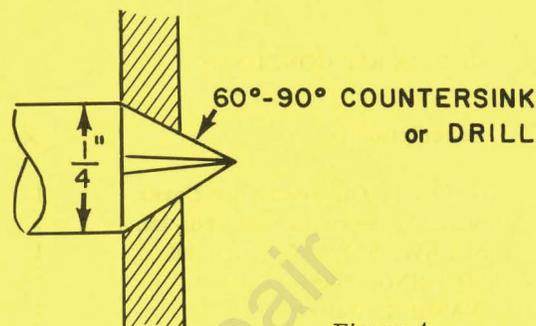

Figure 4
7. Use a $1/4$ " diameter (60° , 82° , 90° will do), and countersink the outside lower hole in the reservoir and reservoir cover to a diameter of $1/4$ " as shown in Figure 4. (In an emergency, a $1/4$ " drill ground to a 60 - 90° point may be substituted)